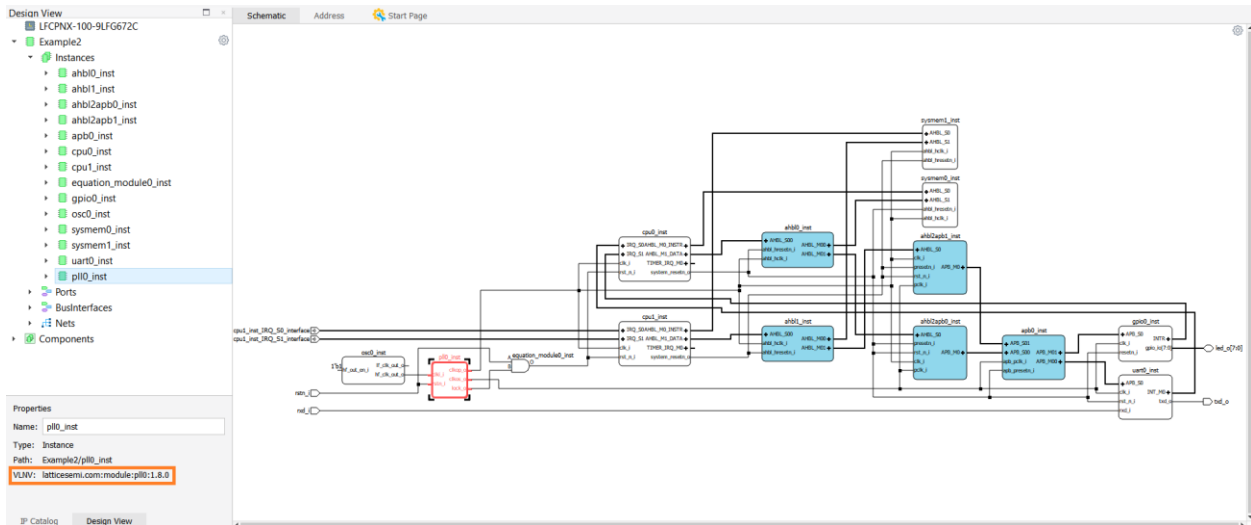

Figure 2.205. Check IP Name in Design View
- Click on an IP instance in **Schematic view**. The **Design View** shows the corresponding information of this IP. Check VLNV for this IP name (Figure 2.205). Go to **IP Catalog** and click on before this IP to show the **IP Information**. In the **Device Supported** area, all the devices this IP supports are listed (Figure 2.206). Make sure all the IP instances in the design have the device support which are listed in the Board Family list in Template Configuration (Figure 2.204).